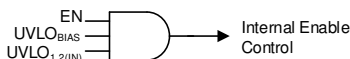

Figure 28. Simplified Turnon Control
Controlling when a single power supply turns on can be difficult in a power distribution network (PDN) because of the high power levels inherent in a PDN, and the variations between all of the supplies. As shown in Figure 28 and Table 2, the LDO turnon and turnoff time is set by the enable circuit (EN) and undervoltage lockout circuits ( $UVLO_{1,2(IN)}$  and  $UVLO_{BIAS}$ ).